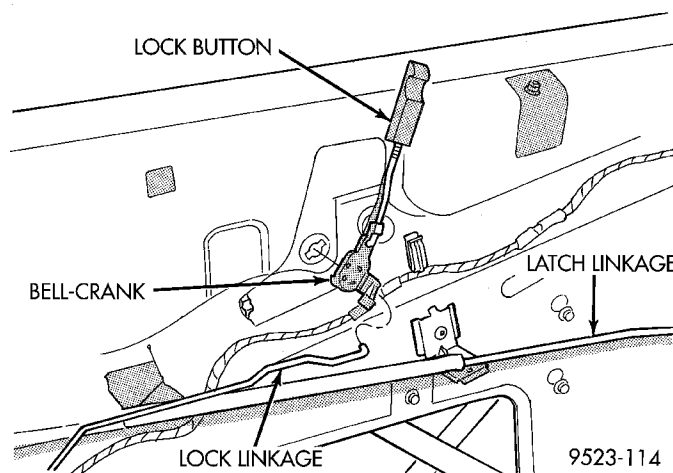

Fig. 11 Lock Button Bell-crank
- (1) Remove door trim panel.
- (2) Disengage clip holding lock linkage to bell-crank
- (3) Rotate bell-crank until retaining ears align with slots in door panel.
- (4) Separate bell-crank from door (Fig. 11).